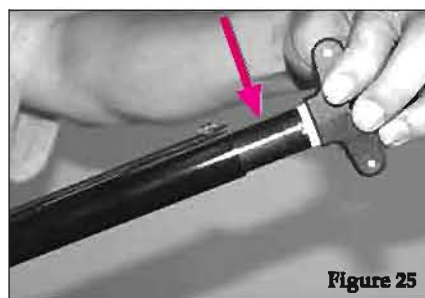

Figure 25
- 2) Remove the choke tube by inserting the choke key and turning it counter clockwise (see figure 25 and 26)